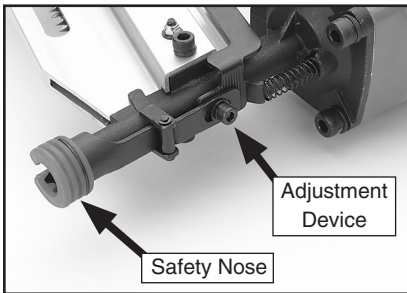

Figure 6. Depth adjustment controls.
2. Loosen the cap screw on the depth adjustment device (**Figure 6**), and move the safety nose backward to increase the nail depth or forward to decrease the nail depth.